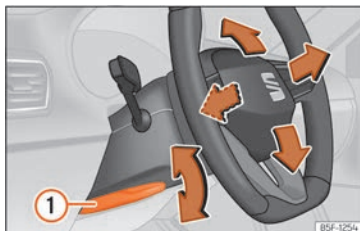

Fig. 6 Lever in the lower left side of the steering column.
- Pull the » Fig. 6 ① lever down, move the steering wheel to the desired position and lift the lever back up until it locks.
- After adjusting the steering column, push the lever » Fig. 6 ① firmly upwards to ensure the steering wheel does not accidentally change position while driving.